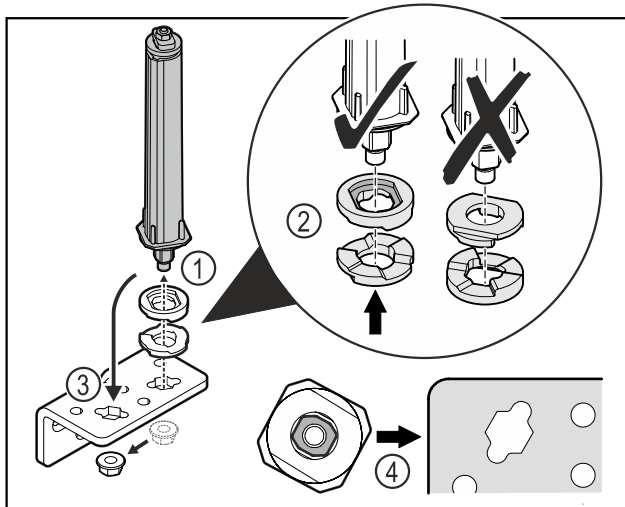

Fig. 41
- ▶ Loosen the nut and remove the door closing system Fig. 41 (1).
- ▶ Observe the correct alignment of the height adjustment washers Fig. 41 (2).
- ▶ Put the door closing system in the hinge and fix in place with the nut Fig. 41 (3).
- ▶ Observe the correct alignment of the door closing system when doing so Fig. 41 (4).